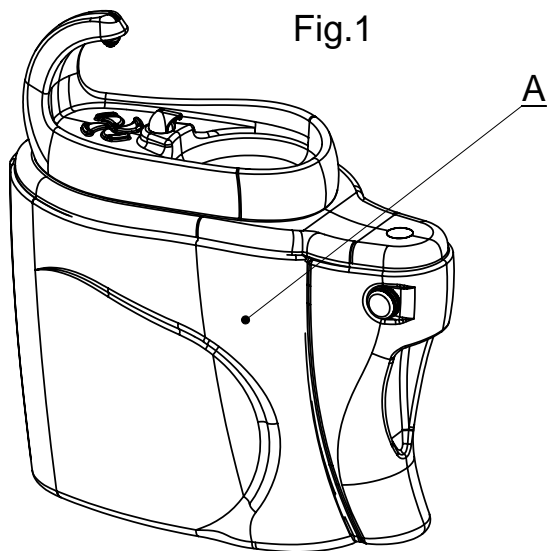
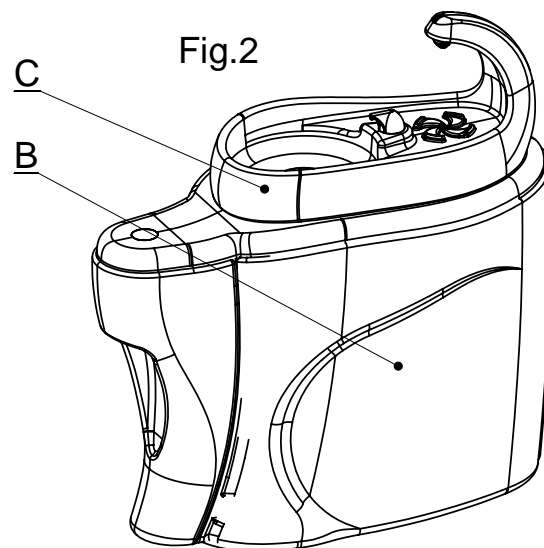
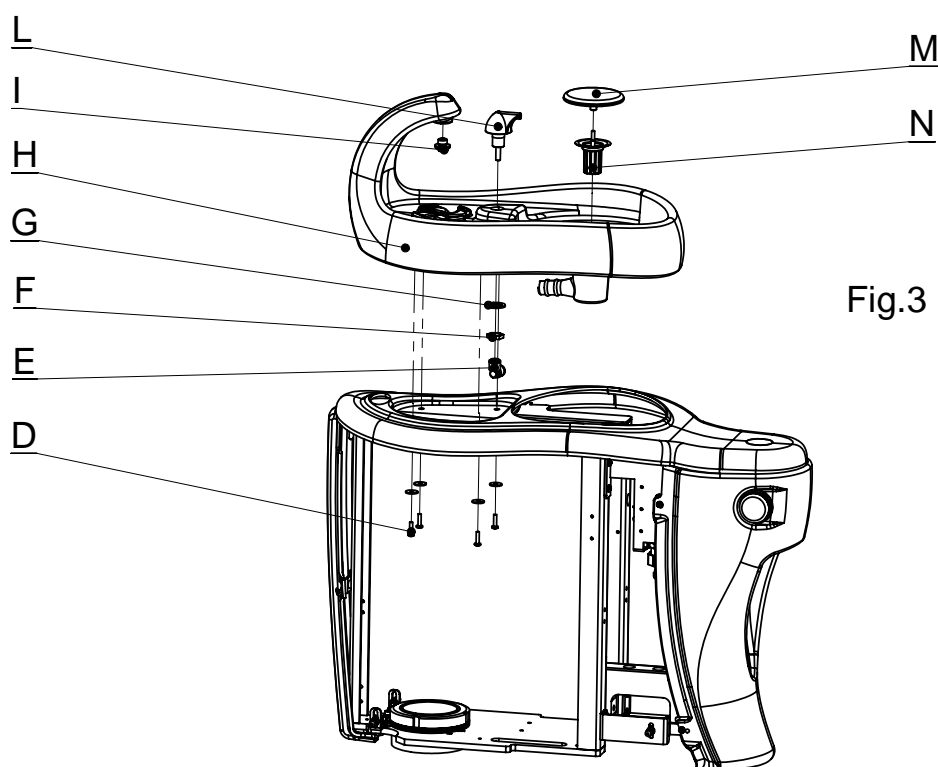

Fig.1
Fig.2
Fig.3
- 2) Disassemble the side covers "A" and "B" by drawing them out of the pins (Fig.1 - Fig.2).
- 4) Unscrew the 4 screws "D" (Fig.3) and draw out the spittoon group "C" (Fig.2).
- 5) From the spittoon "H", disassemble the connection "E", the ring "F" and the spacer "G". Draw out the nozzle group "L" (Fig.3).
- 6) From the spittoon "H", disassemble the drains-cover "M" and the spittoon filter "N" (Fig.3).